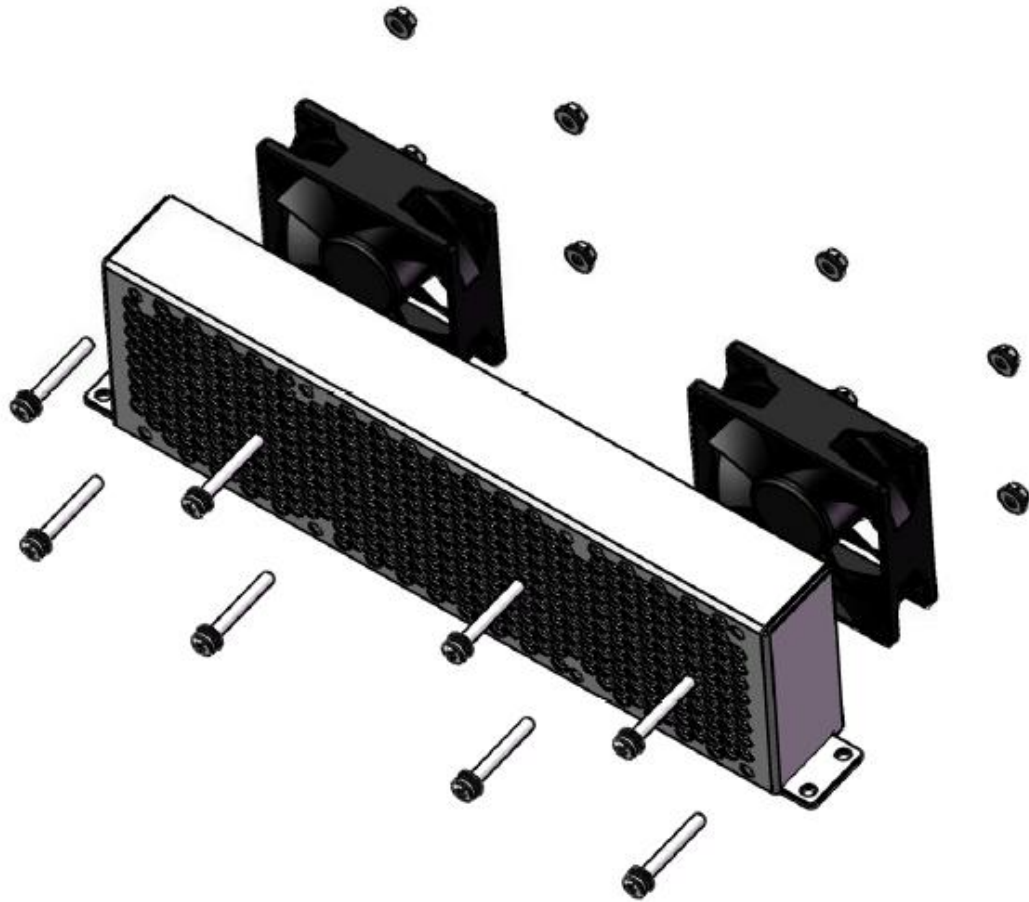

Figure 7-2 Remove the screws fixing the fan
Step 8: Take out the fan, clean the fan or replace the damaged fan, as shown in Fig. 7-2